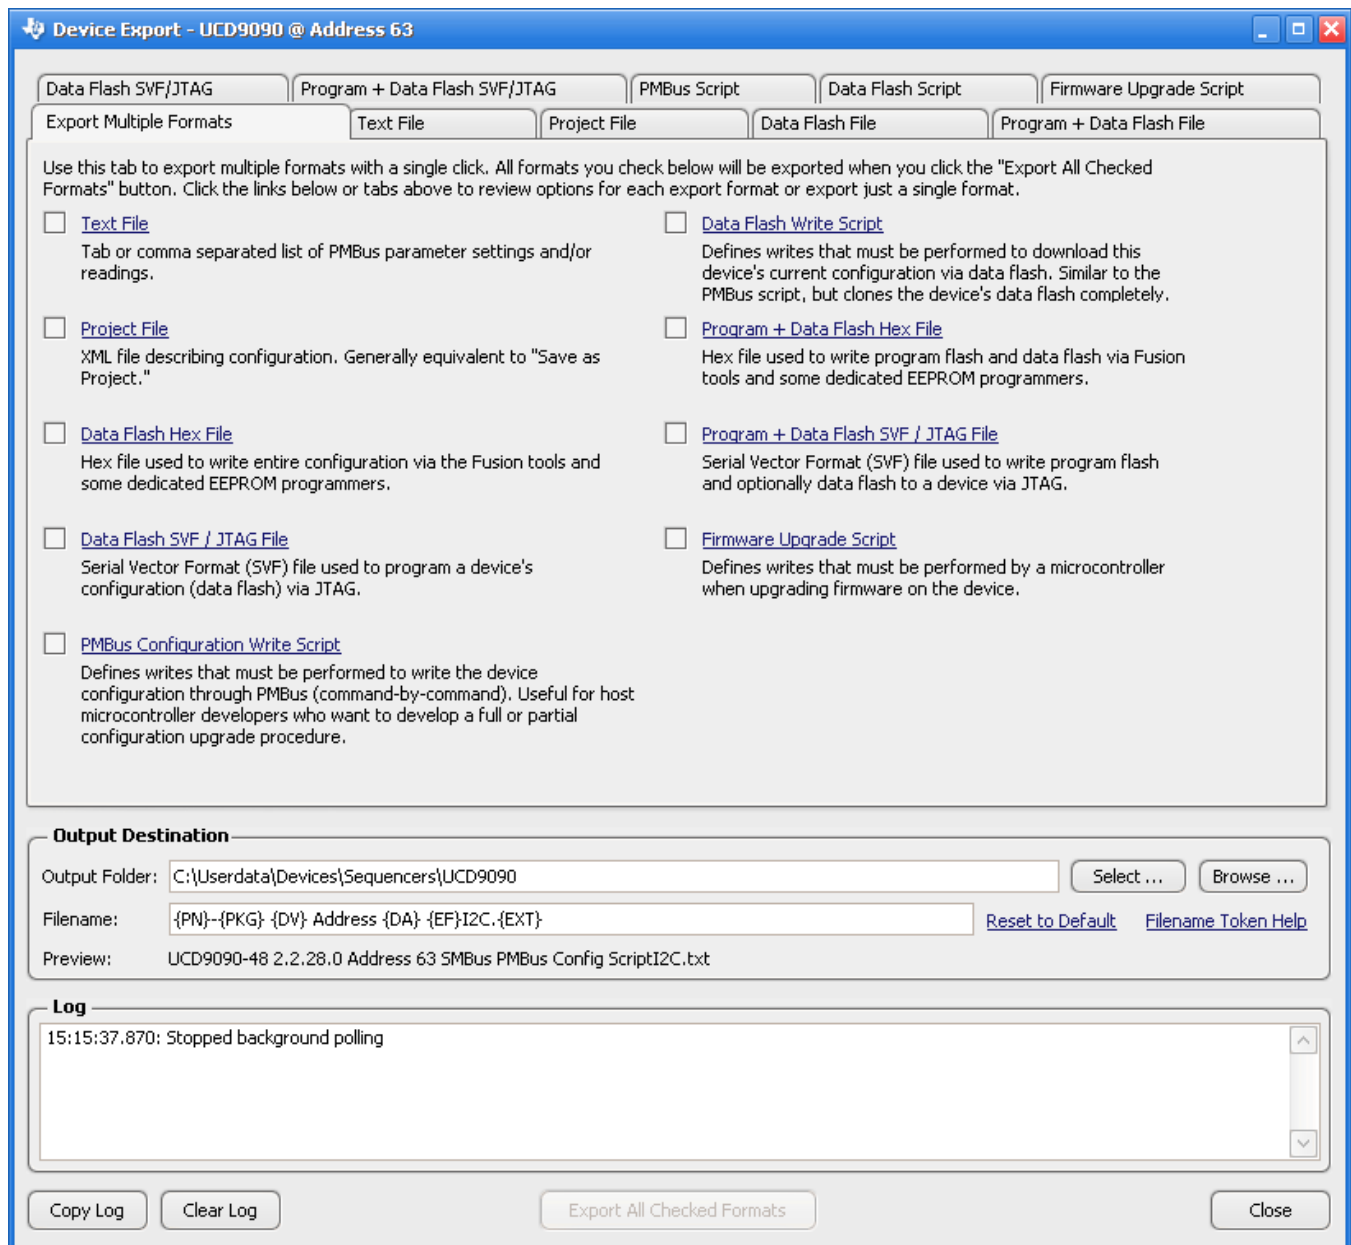

Figure 31. Fusion GUI Device Configuration Export Tool
- Another in-circuit programming option is for the *Fusion GUI* to create a data flash image from the configuration file (Figure 31). The configuration files can be exported in Intel Hex, Serial Vector Format (SVF) and S-record. The image file can be downloaded into the device using I²C or JTAG. The *Fusion GUI* tools can be used on-board if the *Fusion GUI* can gain ownership of the target board I²C bus.